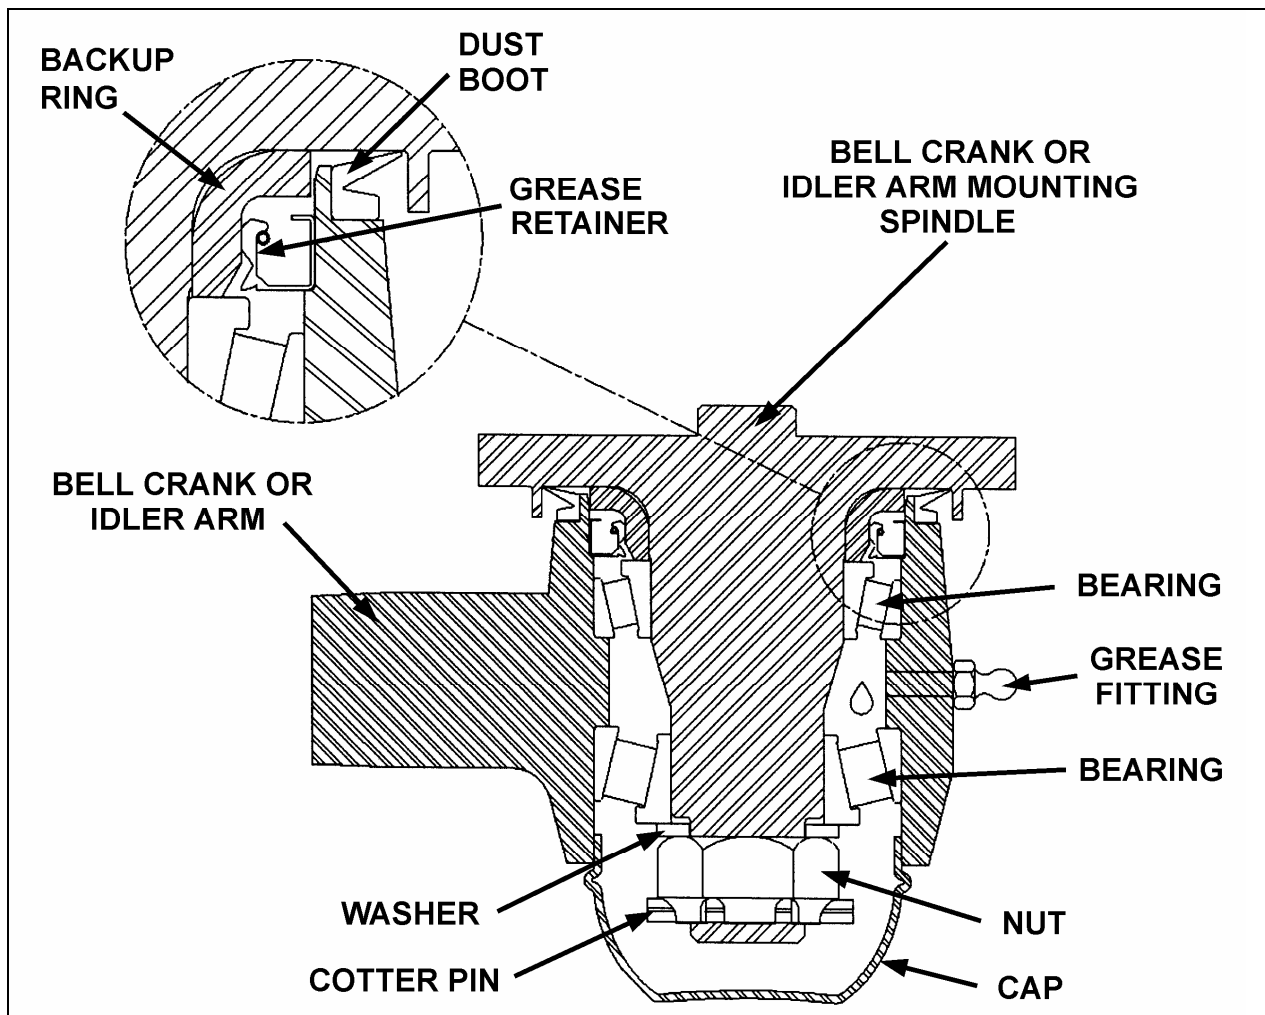

FIGURE 24: BELL CRANK AND IDLER ARM
2. Remove the cap (Fig. 24).
3. Remove the cotter pin, nut and thrust washer. Remove bearings, grease retainer, backup ring and the bell crank or idler arm from its mounting spindle (Fig. 24).
2. Install grease retainer and bearing in bell crank or idler arm eye (Fig. 24).
**Note:** Bend cotter pin around the nut (Fig. 24). Do not bend the cotter pin in the direction of the cap, because it may interfere with the cap.